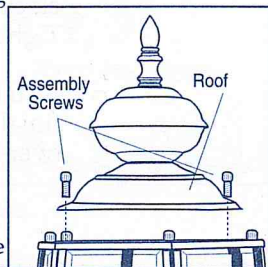

Figure 1
- For two screw and multiple screw assembly roofs, remove assembly screws on roof and remove roof. Insert bulb(s). Reattach roof (see figures 1 or 2).